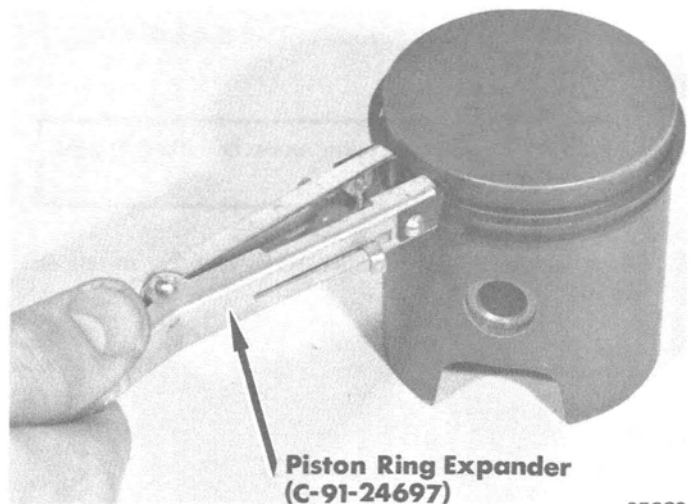

Figure 6. Piston Ring Replacement
8. Use Piston Ring Expander (C-91-24697) to remove piston rings. (Figure 6)